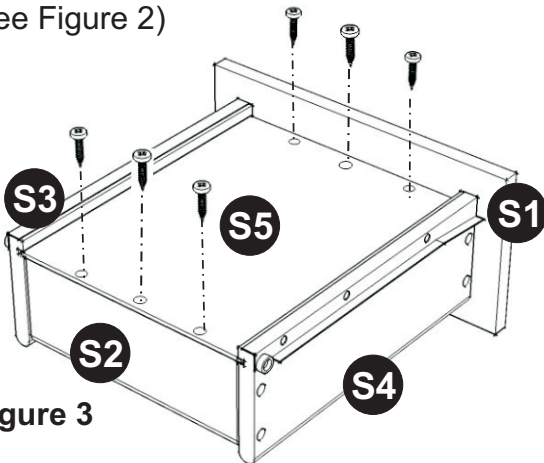

Figure 3
(Figure 3)
Attach Door (Q) and (R) to the side panels by sliding the door lift hinges into the side panel lift hinges. (see Figure 3)
Insert short wood screws (6X) into the pre-drilled holes in S5, tighten screws. (see Figure 3)